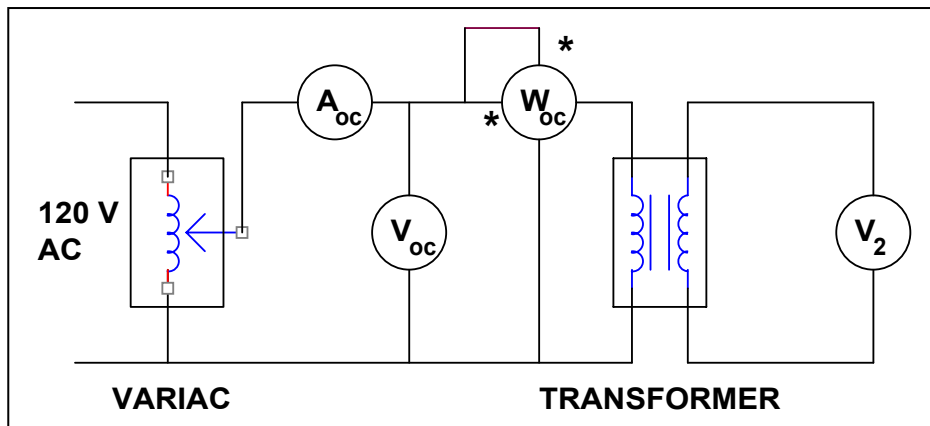

Figure 4.11. Transformer open circuit test measurements
4.1. Connect the apparatus as shown in Figure 4.11. Apply the rated input voltage to the primary winding and measure input voltage, current, power, and output voltage.